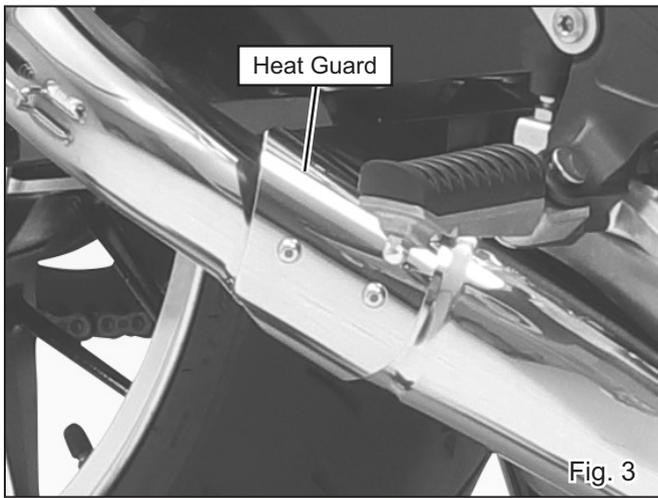

Fig. 3
- 6) Before tighten and torque bolts, check and adjust the position of Heat Guard as shown in following images. Then, tighten and torque 2 of Button Bolt M5x10 (See Fig. 3, 4, 5 & 6 on next page).